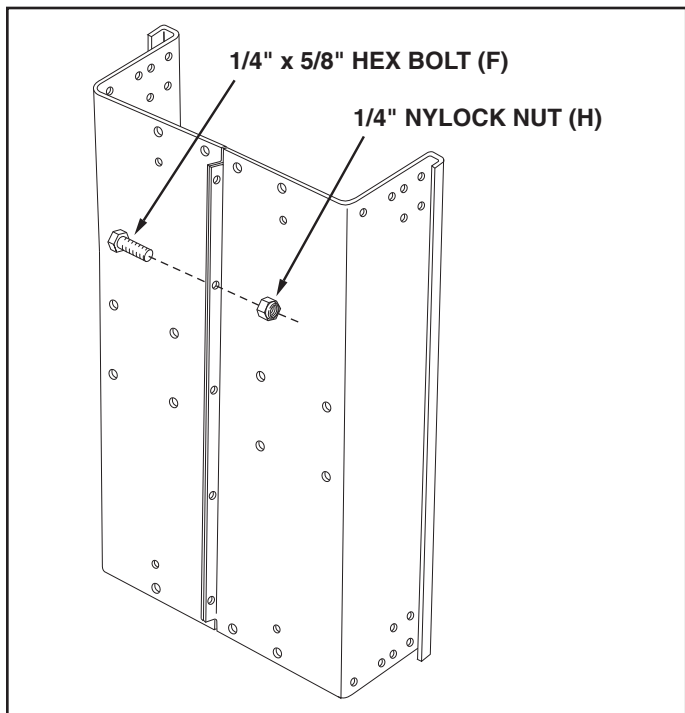

FIGURE 1
3. Position cart body halves upright on a smooth level surface such as a garage floor or a paved driveway. See figure 1.
4. Assemble halves together using five 1/4" x 5/8" (F) hex bolts and 1/4" nylock nuts (H) as shown in figure 1. **Do not tighten yet.**